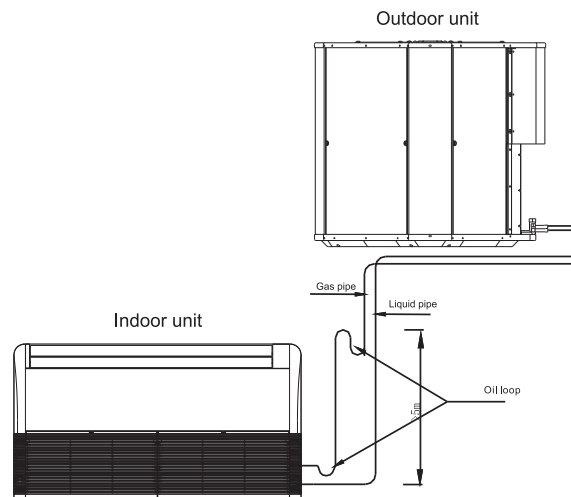

Fig 21
■ When connect pipe length over 5 meters (single distance), use vacuum pump to exhaust the air; As for the unit utilizing R410A, it must use vacuum pump to exhaust the air no matter how long the pipe is. (Refer to Fig 21)
- ① Open Nut A, connect Charging hose 1 of the manifold to valve A (Valve A and B must be turned off). Then connect Charging hose 2 to the vacuum pump.
- ② Open Low pressure handle of the manifold Lo complete.
- ③ Start the vacuum pump to exhaust the air. Open valve B a little to check whether the air come in or not. (The noise from vacuum pump changes and the reading of gauge alters from negative to zero), and then tighten the valve nut.
- ④ After exhausting the air, close Low pressure handle of the manifold (Lo) completely.
When the height difference between indoor and outdoor units is relatively large, oil loops should be used to facilitate for oil return. Please refer to the following typical mounting methods in Fig 21